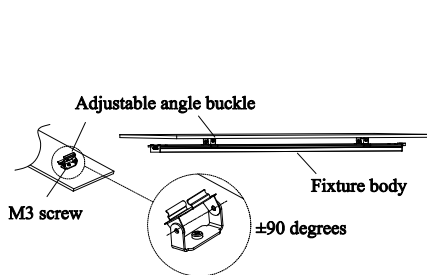

Figure 1
1. Adjustable angle buckle installation: Fix the flat buckle on the installation surface with screws, and then directly clip the fixture body into the buckle. The fixture body can wrap around the buckle bracket ± 90 Degree rotation (as shown in Figure 1);